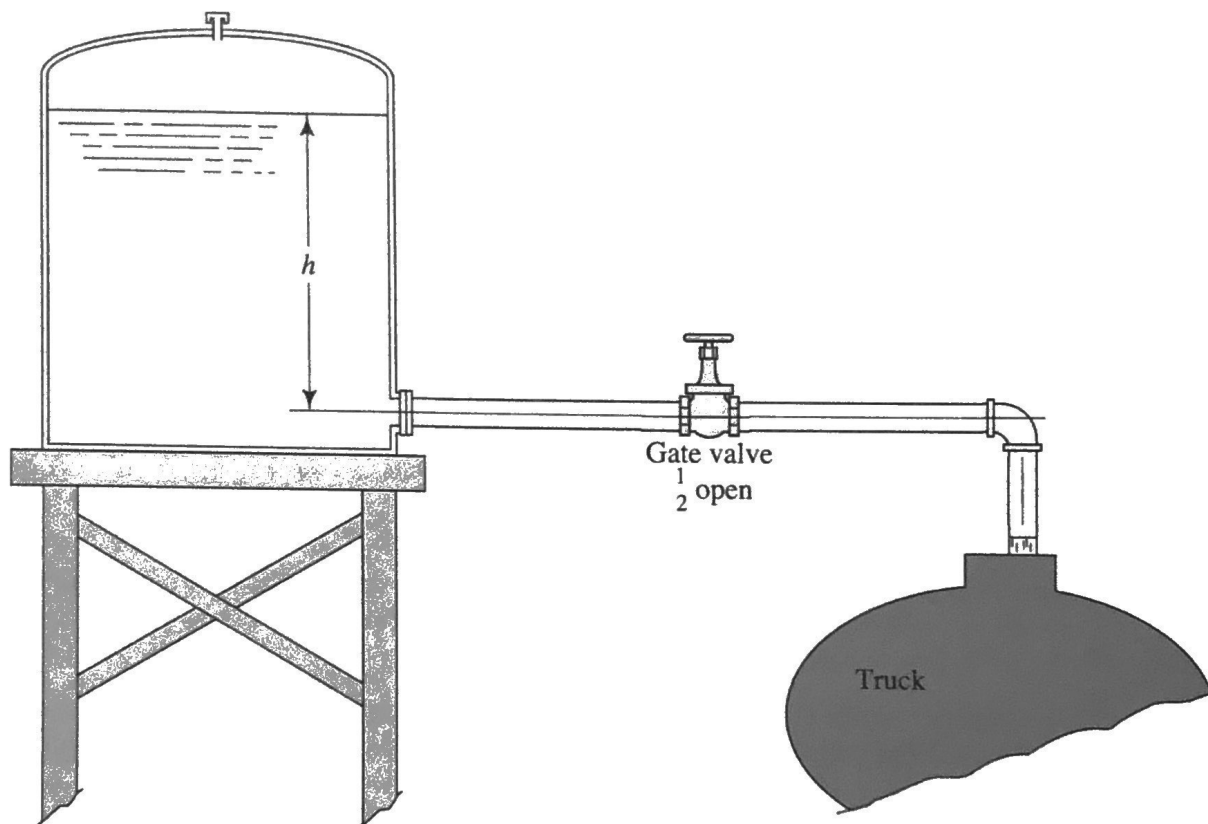
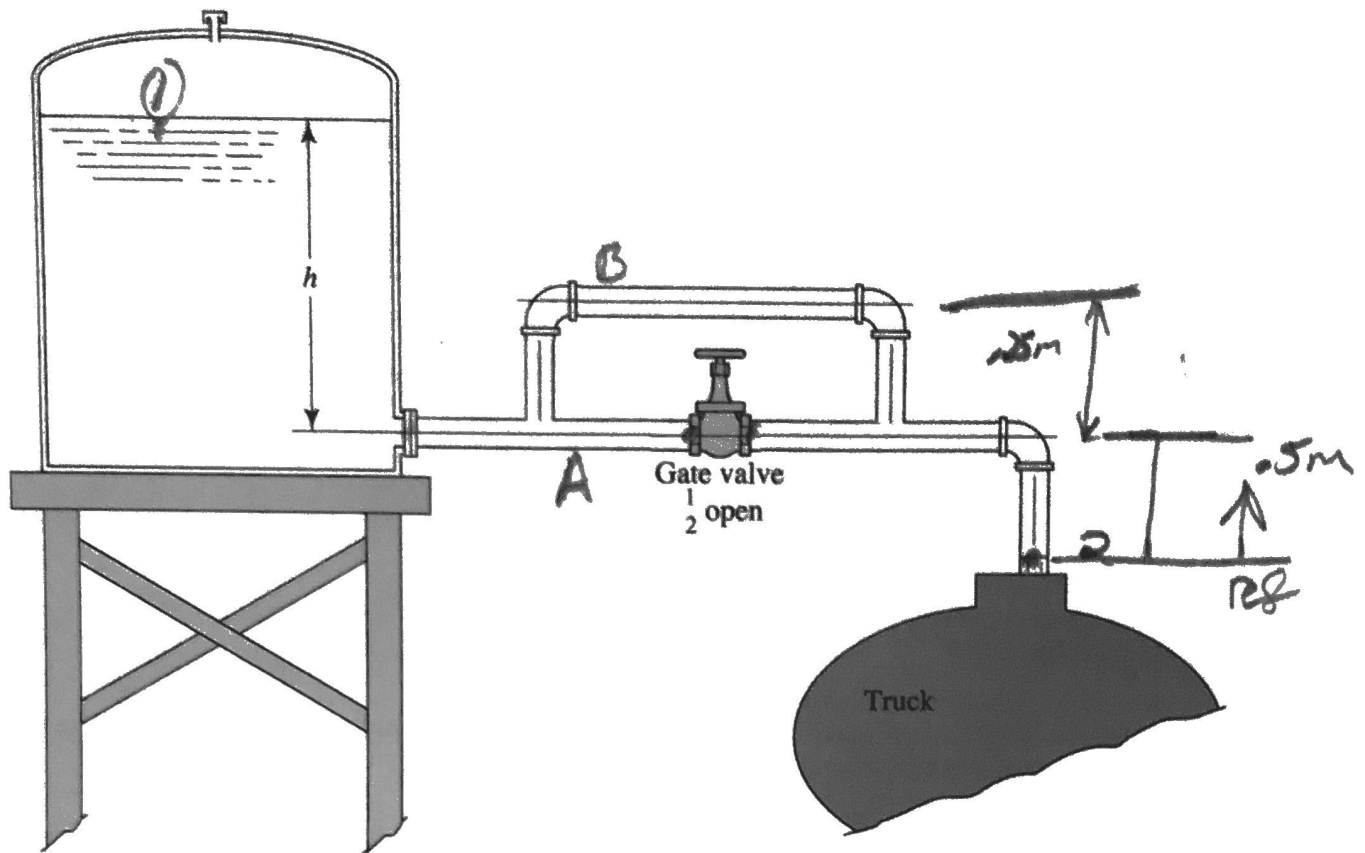

Figure 1. Schematic of the system you designed on the 1st test.
Figure 2. Schematic of the system for the 1st part of this test.
1. Your client wants you to revisit your design. The engineer wonders how much total flow rate would you get if you modify the pipeline system to the way shown in figure 2. The new branch is made up of a horizontal pipe whose length is $2/3$ of the previous horizontal pipe length (figure 1) and the pipe vertical portions are 0.25 m long. The branch pipe diameter is the same as the one provided on the 1st test. The gasoline depth remains the same to the one you obtained on the 1st test.